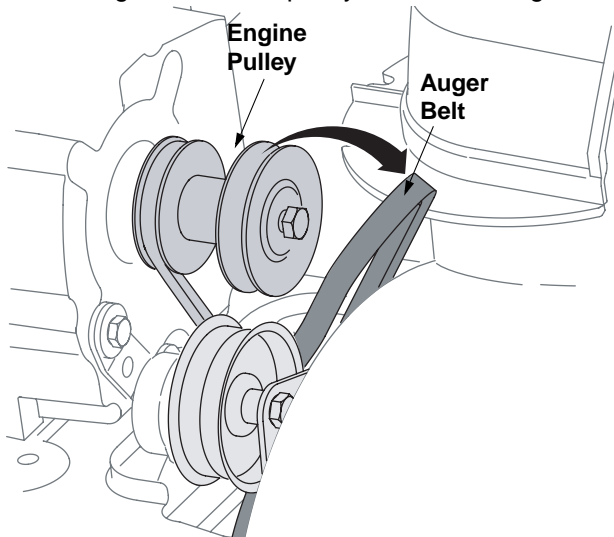

Figure 23
- Take auger belt off the pulley as shown in Figure 23